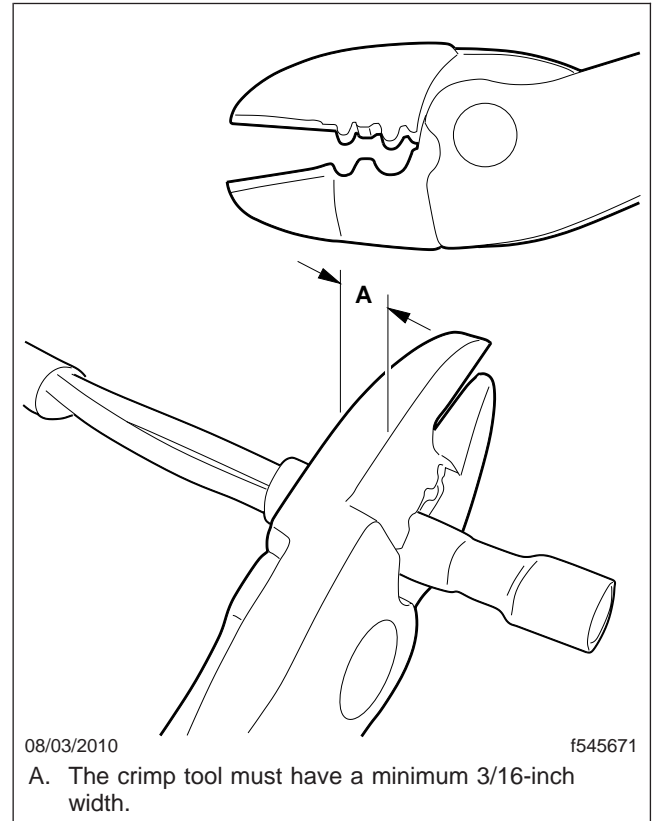

Fig. 7, Crimp Tool
- 10.3 Crimp each end of the butt using a crimp tool to secure the wires. See Fig. 7.